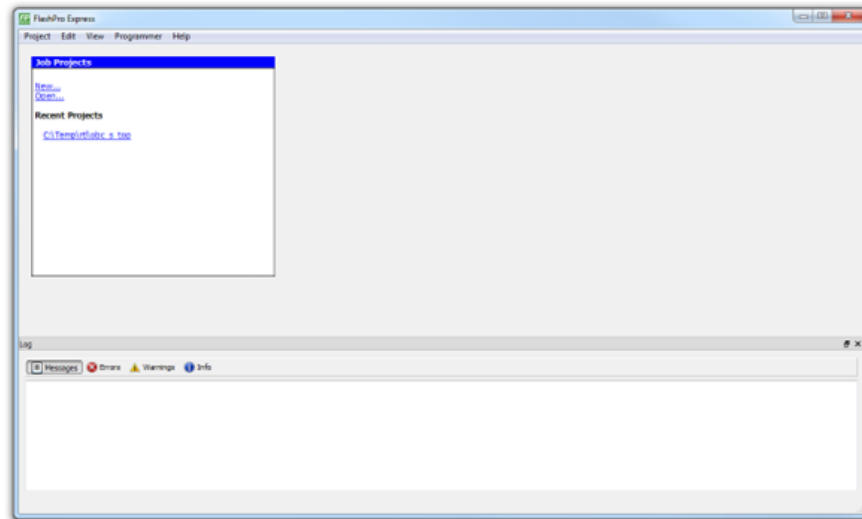

Figure 12.1 - Startup view of FlashPro Express
1. Connect the FlashPro5 programmer via the 104470 FPGA programming cable assembly to the JTAG-RTL connector in Figure 12.1.
2. Connect the power cables according to Figure 12.1.
4. Start the FlashPro Express application, click “Open...” in the “Job Projects” box (see Figure 12.1) and select the supplied .pro file.